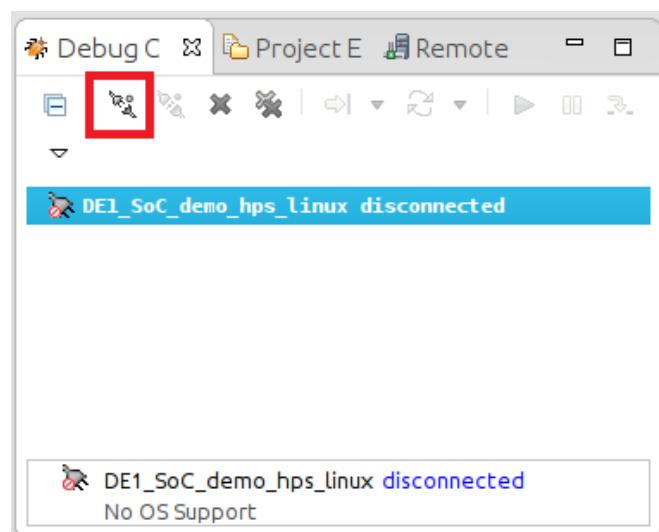

Figure 13-34. Debug Control View
82. In the “Debug Control” view, click on the “DE1\_SoC\_demo\_hps\_linux” entry, then click on the “Connect to Target” button, as shown on Figure 13-34. The debugger will start an SSH connection to the linux distribution running on the DE1-SoC and will automatically transfer our binary file and wait at our application’s “main()” function. If you are prompted to log in, then log in with the **ROOT** user and password.